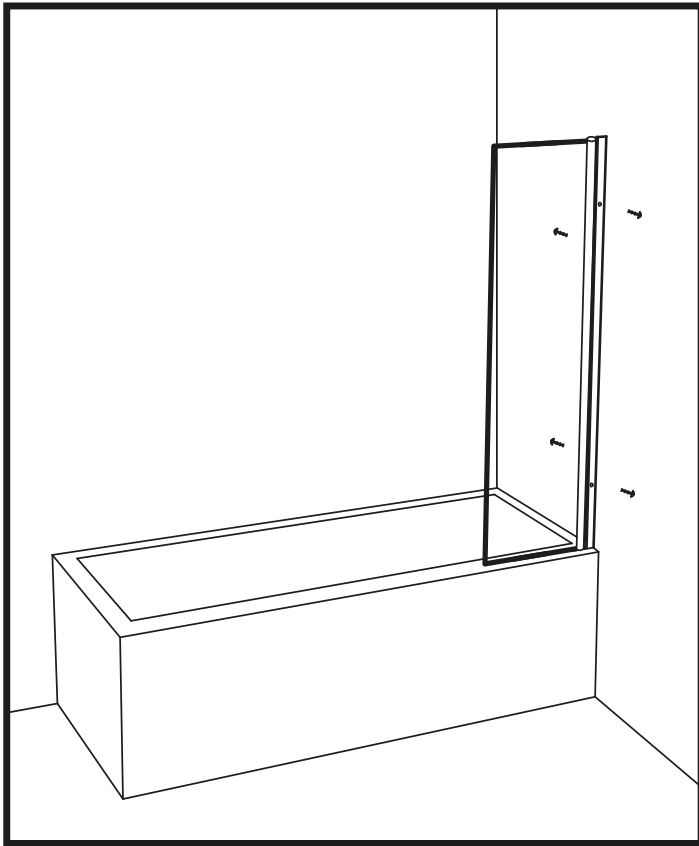

Figure 6
11. Mark the screw attachment points on the profile both inside and outside the bathtub. Measure and make marks, on one side of the profile, about 10 cm from the bottom and from the top, and on the other side of the profile, about 20 cm from the bottom and from the top. (Fig 6)